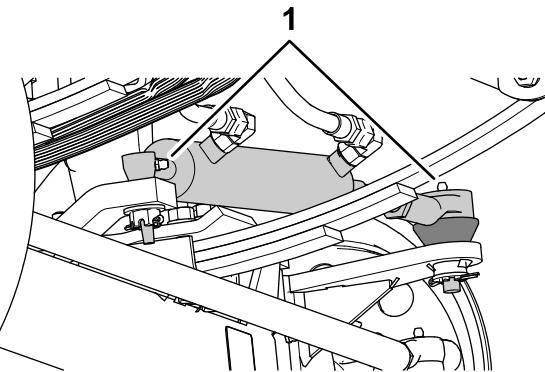
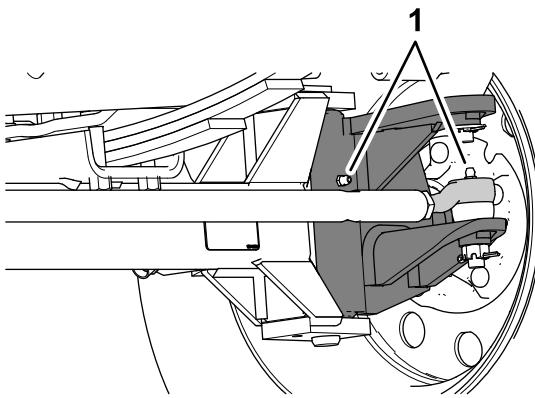

Figure 105
Figure 106
1. Wipe the grease fittings clean (Figure 105 and Figure 106).
2. Pump grease into the grease fittings (Figure 105 and Figure 106).
Note: The grease fittings positions are illustrated in Figure 105.